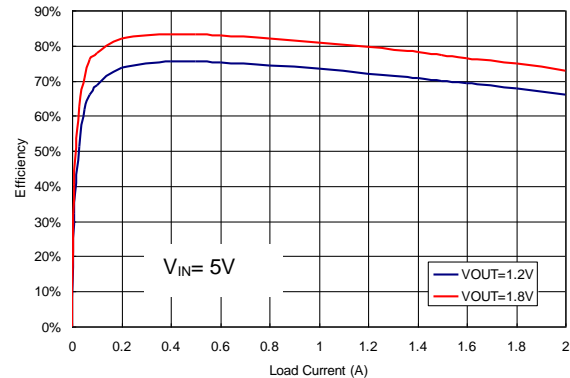

Figure 6. Efficiency vs. Loading
4. Keep the sensitive signal (FB) away from the switching signal (SW).
5. The exposed pad of the package should be soldered to an equivalent area of metal on the PCB. This area should connect to the GND plane and have multiple via connections to the back of the PCB as well as connections to intermediate PCB layers. The GND plane area which connects to the exposed pad should be maximized to improve thermal performance. (Figure 6)